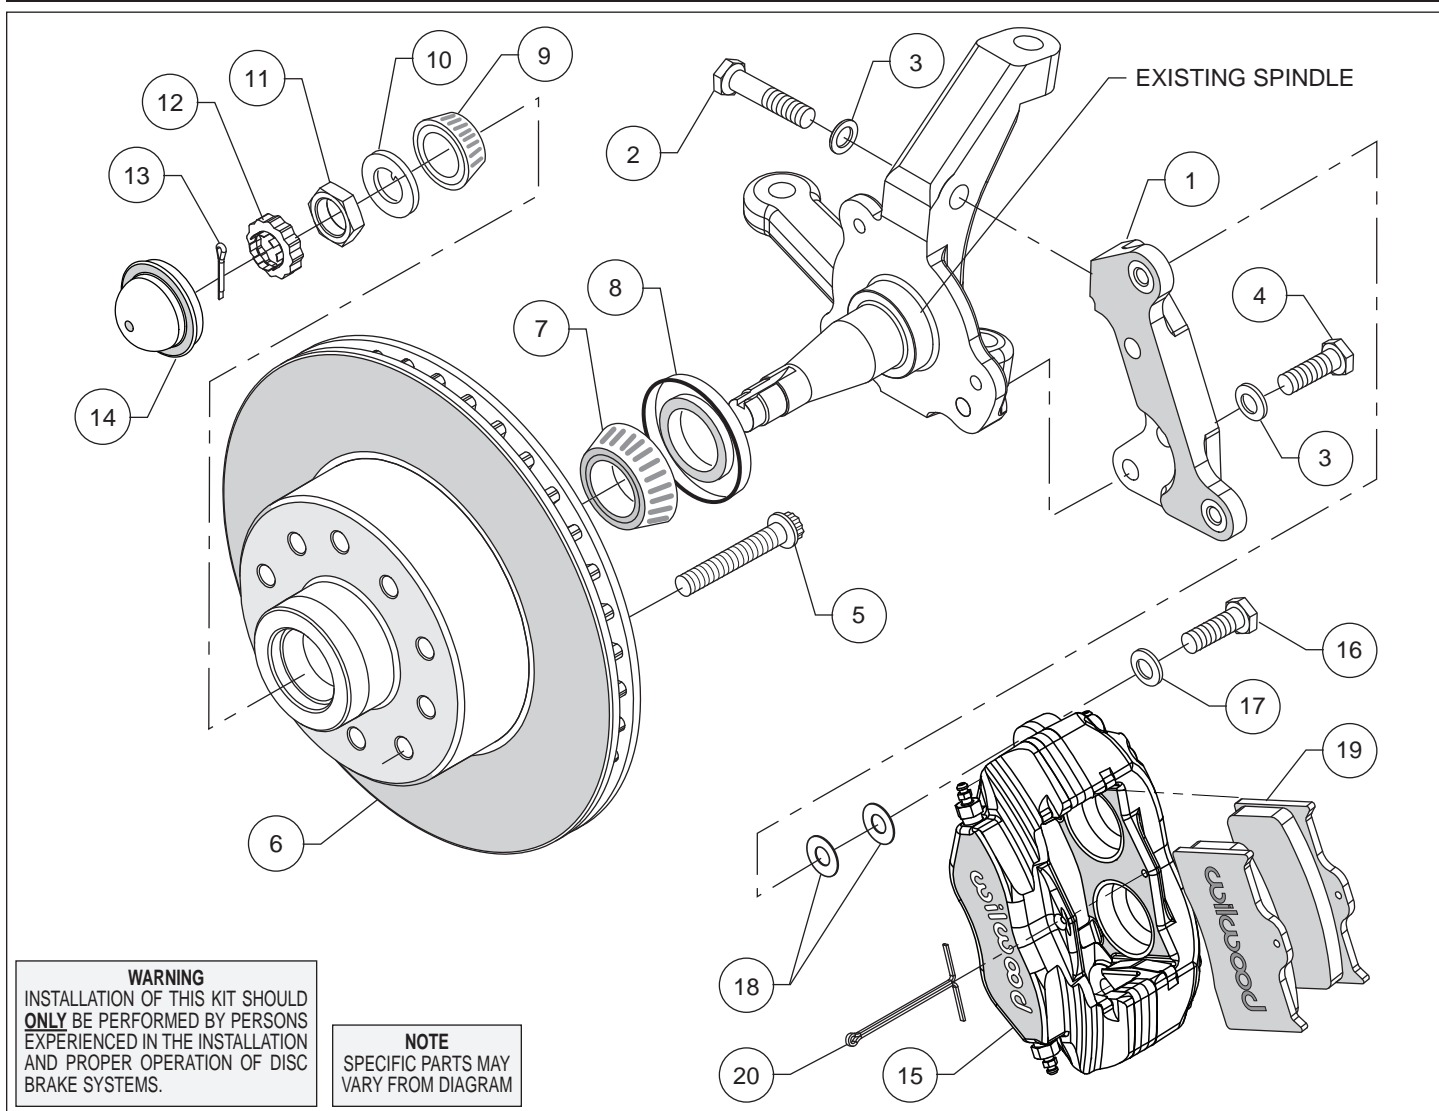
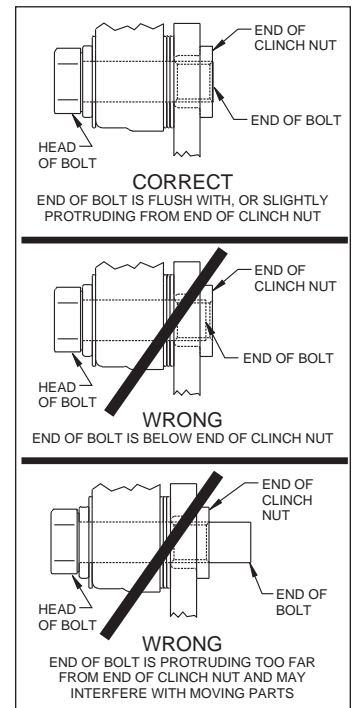

Figure 1. Typical Installation Configuration
Figure 3. Clinch Nut Engagement Diagram
Assembly Instructions (numbers in parenthesis refer to the parts list, on the preceding page and Figure 1): **CAUTION:** All mounting bolts must fully engage clinch nuts. Be sure to check that all bolts are either flush or protruding through flanged side of clinch nut after shimming, Figure 3.
- Orient the caliper mount bracket (1) as shown in Figure 1 and Photo 1, and install using bolts (2/4) and washers (3). Ensure that the flanged heads of the clinch nuts in the bracket are facing outboard, Photo 1. Temporarily tighten the mounting bolts. **NOTE:** The bracket must fit squarely against the mount bosses on the upright. Inspect for interference from casting irregularities, machining ridges, burrs, etc. Remove bolts one at a time, apply red *Loctite*[®] 271 to the threads and torque to 47 ft-lb.
- Press the dust cap (14) into the hub (6), Photo 6. **NOTE:** Do not hammer center of cap. Install using outer flange only.
- NOTE:** Please reference the caution statement at the beginning of the assembly instructions. Mount the caliper (15) onto the caliper mounting bracket (1) using bolts (16) and washers (17), as shown in Figure 1. Initially place two .035" thick shims (18) on each bolt between the caliper and the bracket, Photo 7. Temporarily tighten the mounting bolts and view the rotor (6) through the top opening of the caliper. The rotor should be centered in the caliper, Photo 8. If not, adjust by adding or subtracting shims between the bracket and the caliper. Always use the same amount of shims on each of the two mounting bolts. **NOTE:** The end of each bolt must be flush with or slightly protruding from the head of the clinch nut, as shown in Figure 3. If necessary place spare shims between washer (17) and caliper mounting ear to achieve the proper clinch nut engagement. Once the caliper alignment and clinch nut engagement are correct, remove the bolts one at a time, apply red *Loctite*[®] 271 to bolt threads, and torque to 40 ft-lb.